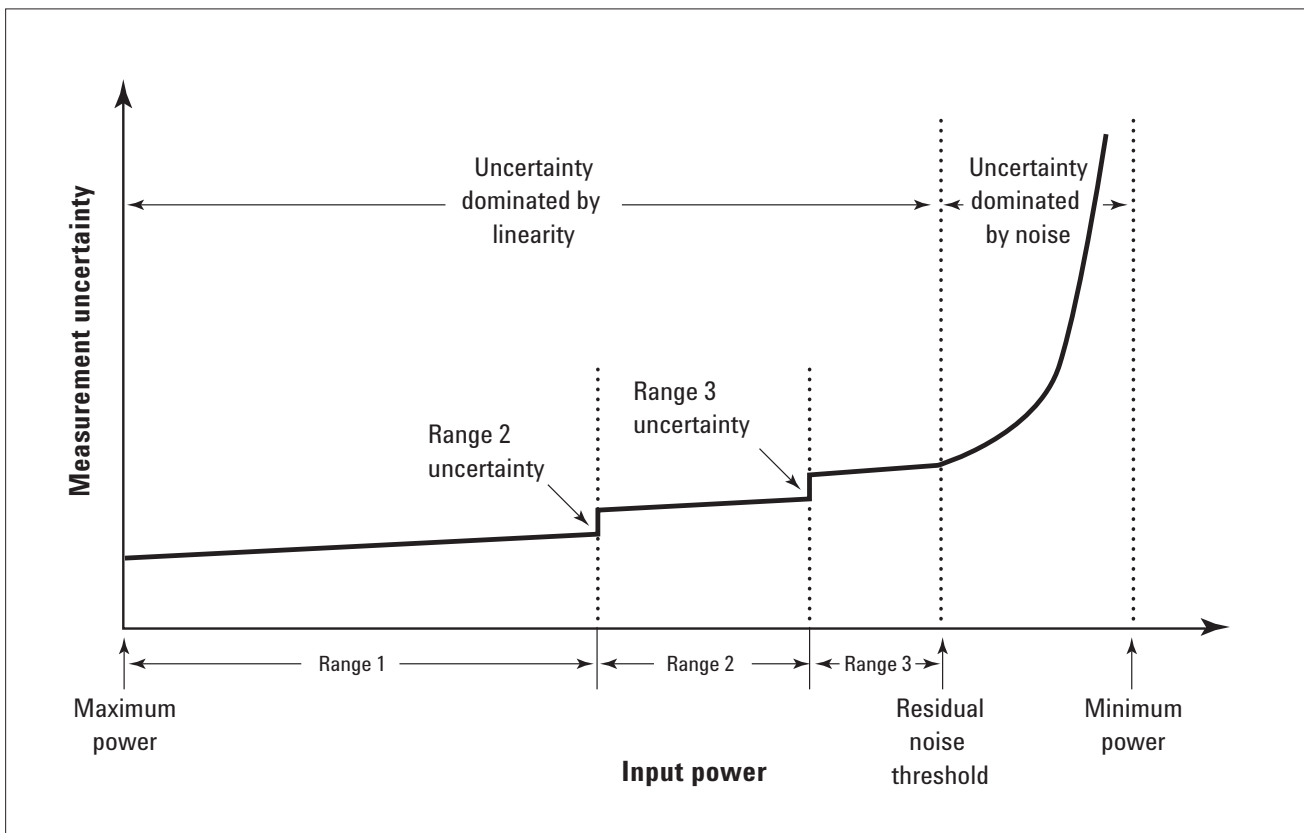

Figure 1. Measurement uncertainty vs. input power relationship
- In absolute accuracy of TRFL measurements, the cumulative error is the error incurred when stepping from a higher power level to the Residual Noise Threshold power level. See Figure 1 for a graphic. In order to calculate the cumulative error, you must determine the Residual Noise Threshold power and determine the Power Meter Range. The formula to calculate the cumulative error is:  $\pm(\text{Power Meter Range Uncertainty} + 0.005 \text{ dB}/10 \text{ dB step})$ . For example: the power sensor is Option 504, starting power is 0 dBm and power will be stepped to -120 dBm. Therefore starting power falls in the Power Meter Range 2-4 and the uncertainty is  $\pm 0.190 \text{ dB}$ , as indicated in the table on the next page. The Residual Noise Threshold Power is -106 dBm at IFBW of 10 Hz. This is calculated per the Minimum Power specification in the table on the previous page. Assume no preamp is installed, and that the measurement frequency is 10 MHz to 3 GHz. The Residual Noise Threshold Power is  $-136 \text{ dBm} + 30 \text{ dB} = -106 \text{ dBm}$  using the formula on this page. The cumulative error is then  $\pm(0.190 \text{ dB} + 106/10 \times 0.005 \text{ dB})$ , or  $\pm 0.245 \text{ dB}$ , where x is a ceiling function that means the smallest integer not less than x, which is 11 in this example.